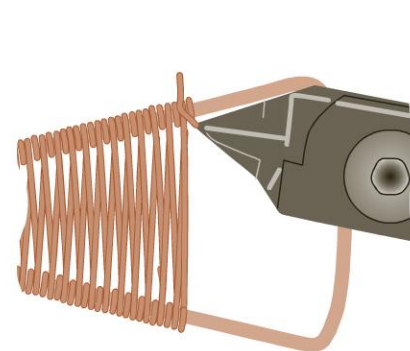

figure 34
- 2 Trim the weaving wire tail on the inside of the frame wire (Figure 34).